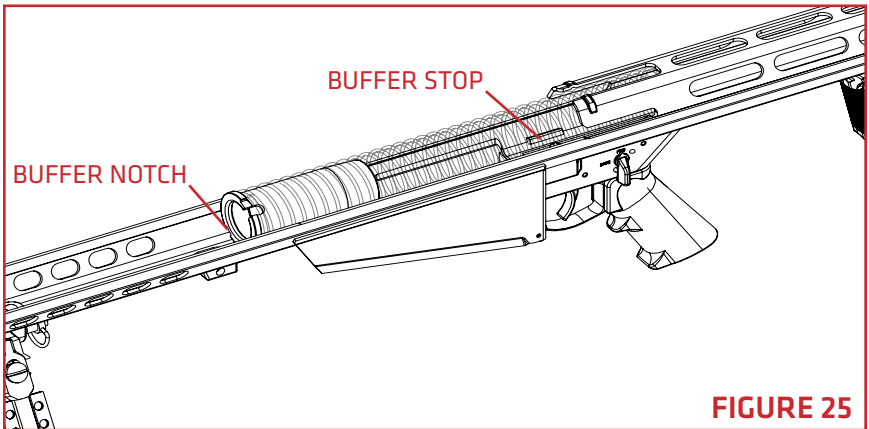

FIGURE 25
1. Place buffer sleeve and mainspring into the lower receiver and align the buffer sleeve notch with the welded buffer stop of the lower receiver. (FIGURE 25).